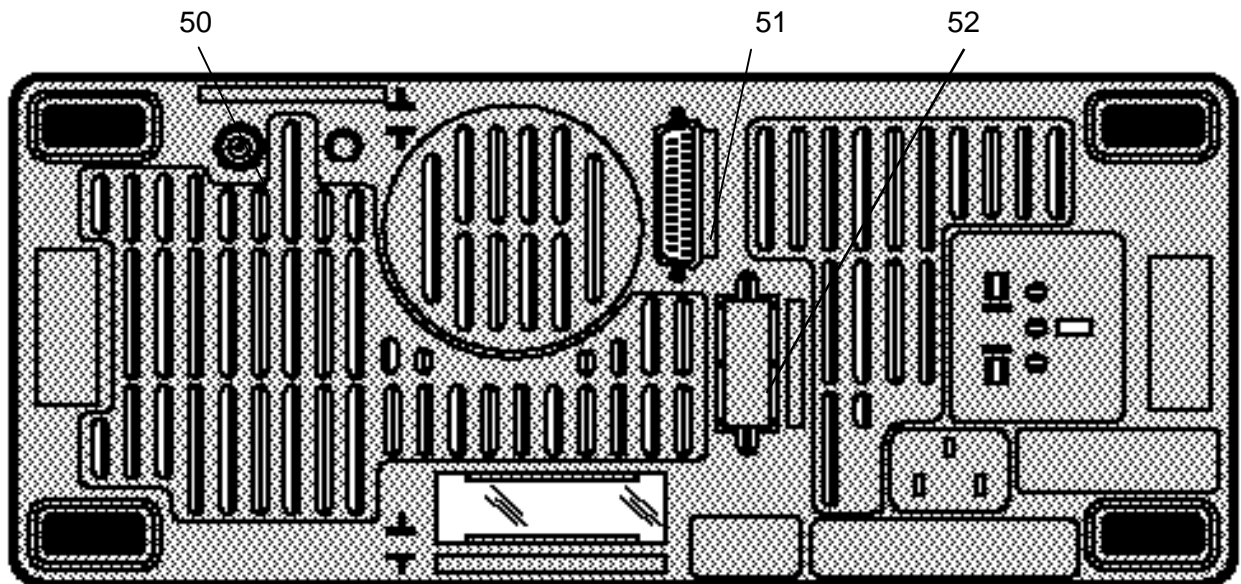

Figure 10
- (2) **TRACE ROTATION** - Adjustment of the horizontal trace alignment in relation to the horizontal axes (this adjustment is done using a screw-driver).
- (50) **Z MODULATION** - Entry via the BNC socket at the back (figure 10), of a TTL signal controlling the switching off of the spot (0 V level → trace on, upper level 5 V ← trace off). In addition, this entry enables a time reference signal to be used (marker).
- (51) **INTERFACE - RS232 or CENTRONICS**: single output connector at the back.
- (52) **GPIB INTERFACE** (optional - ref. HA 1341): output connector location.